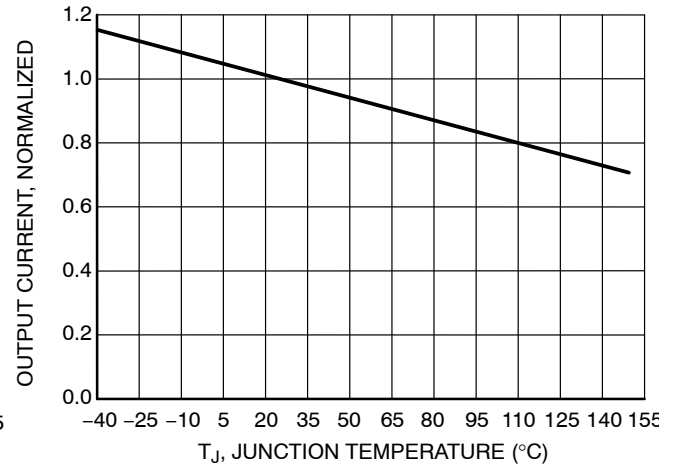

Figure 4. Current Regulation vs. Junction Temperature
10. Calculate the junction temperature using the thermal information on Page 8 and refer to Figure 4 to check the output current drop due to the calculated junction temperature. If desired, compensate it by adjusting the value of R_{ext} .
- Calculate the junction temperature using the thermal information on Page 8 and refer to Figure 4 to check the output current drop due to the calculated junction temperature. If desired, compensate it by adjusting the value of R_{ext} .